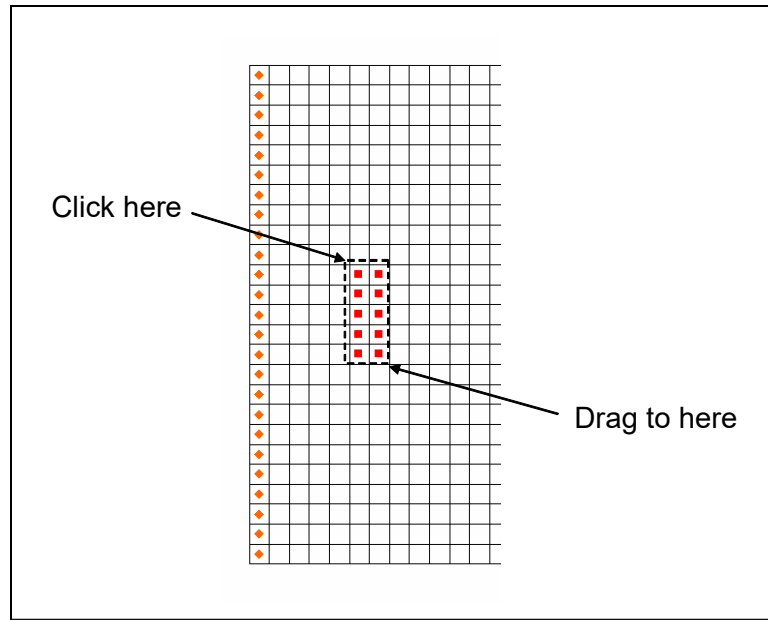

Figure 3 Selecting the cells defining the plume
5. Using the selected cell as the upper left corner, drag a rectangle to select a 5x2 rectangular region of cells as shown in Figure 3.